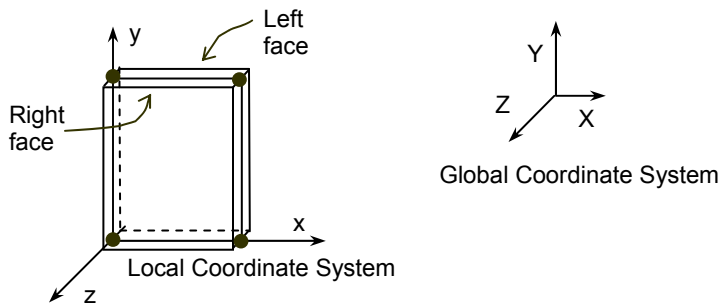

Fig. 2-4. The Plate Element
The rectangular plate finite element has four nodes, one at each corner, as shown in Figure 2-4. Each node has six degrees of freedom ( $D_x$ ,  $D_y$ ,  $D_z$ ,  $R_x$ ,  $R_y$ , and  $R_z$ ). The rotation,  $R_z$ , is referred to as the drilling rotation (ref. 1).
When locating reinforcement within a plate element, the program refers to the left face and right face. The left face of the panel is defined as the face to the left of the plate centerline when looking along the positive X-axis. See Figure 2-4.